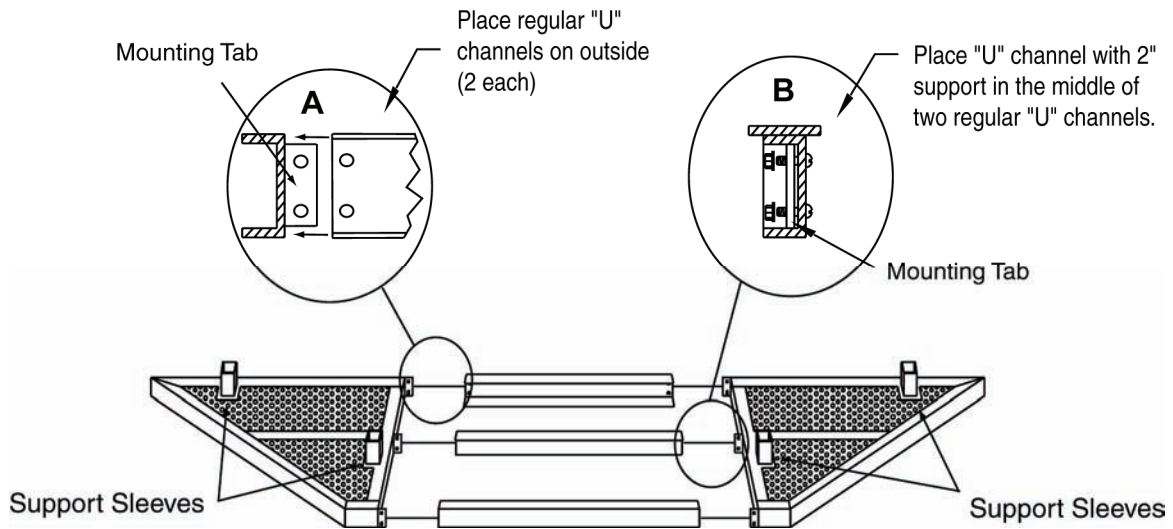

Figure 24. Canopy mounting tabs and support sleeves
2. Place the “U” channel in between the two triangle-shaped end pieces with the “U” channel facing inward. Line up the holes and bolt into place (Figure 24 A and B). Repeat this step for the opposite end of the “U” channel.
The two-position (male) connector has two metal prongs at the end of it. These prongs fit into the female receptacle of the other connector. Match up the two-position wire (female) with the two-position wire (male) and securely attach them together (Figure 24 - Insert). This step must be repeated for each main support post.